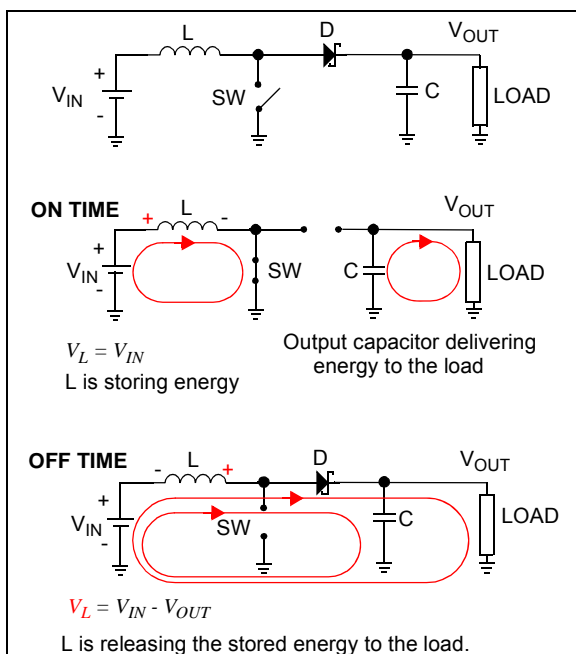

FIGURE 1: Boost Converter Topology.
The Boost topology is commonly used in today's battery-powered devices, as it requires the minimum number of components in order to develop a DC-DC power converter that provides a stable output voltage from a lower input source ($V_{IN} < V_{OUT}$). Figure 1 shows an idealized version of a non-synchronous boost converter.
- When the switch is turned ON (ON TIME circuit in Figure 1), a DC voltage equal to V_{IN} is applied to the inductor, resulting in a positive linear ramp of the inductor current (simplified model). During this time, the diode D is reverse-biased and the energy to the load is provided by the output capacitor.
- When the switch is turned OFF (OFF TIME circuit in Figure 1), the polarity across the inductor will reverse in order to sustain the current flow towards the load. The voltage across L will be $V_{IN} - V_{OUT}$ (where $V_{OUT} > V_{IN}$), resulting in a negative linear ramp of the inductor current (simplified model). With the switch opened, there is no path from the right side of the inductor to the negative power supply terminal. During this time, the rectifying diode is forward-biased and the energy is delivered to the output capacitor and load.